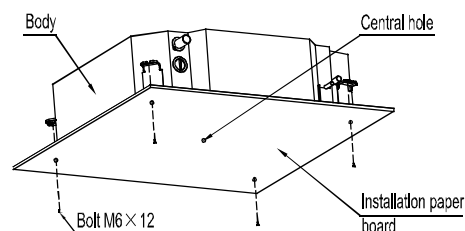

Fig.5-6
- 2 After installing the body, please fasten the installation paper board onto the air conditioner with bolts(M6X12) to determine in advance the sizes and positions of the hole opening on ceiling.(Refer to Fig.5-6)